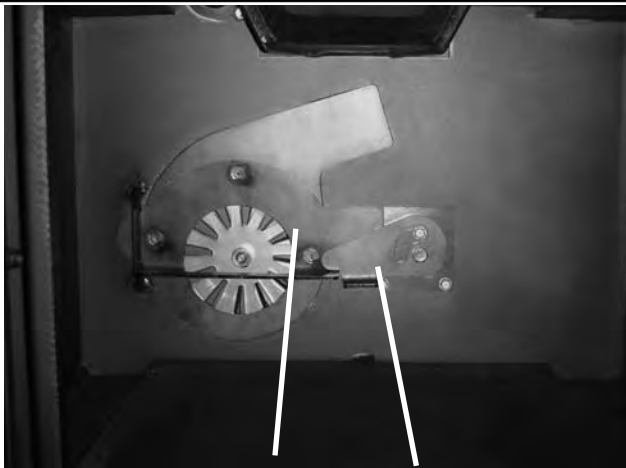
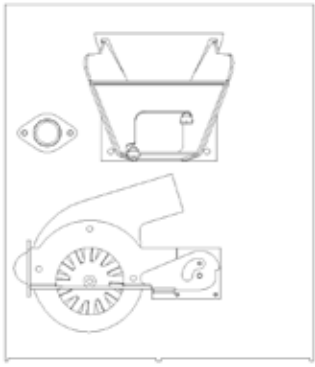
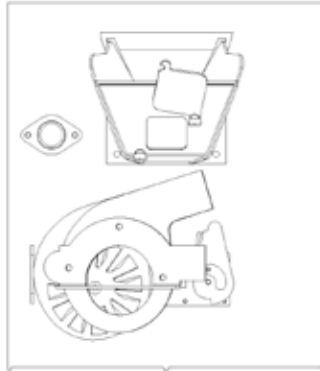

Fig. 24 Combustion Blower Cover Blower Cover Latch
Fig. 26
Fig. 27
3. Remove combustion blower cover by turning the latch vertical as shown in Fig.26 and sliding the cover out of the slot on the left (Fig.27.) This will expose the combustion blower wheel and flue outlet, (Fig.24.)